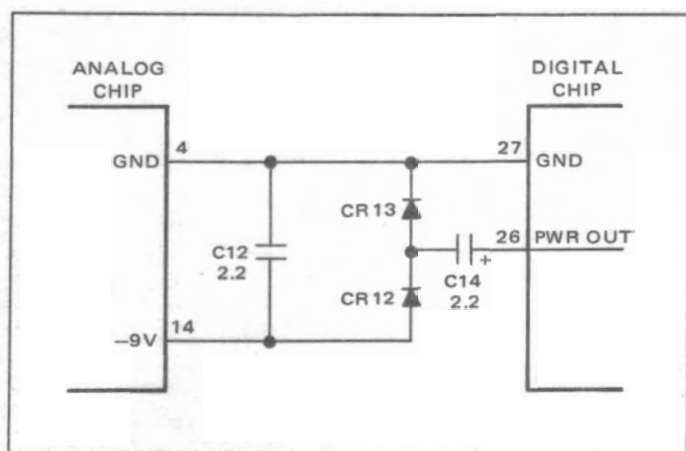

Figure 4.5 - Voltage Divider Circuit
4.3.1 Pin 26 of the digital chip produces a square wave output, at 8 to 10 KHz, of 9V p-p, referenced to ground, labeled "power out" as shown in Waveform A. See Figure 4.5 and 4.6.